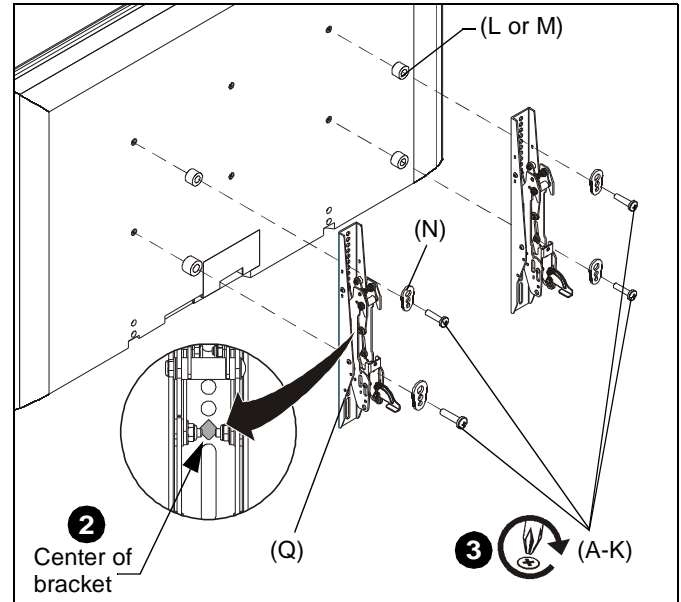

Figure 7
2. Align the center of the interface bracket (Q) with vertical center of screen. (See Figure 7)
3. Select correct screws, spacers (if necessary) and universal washers from the hardware bag (A-N) and attach brackets (Q) to back of screens. (See Figure 7)